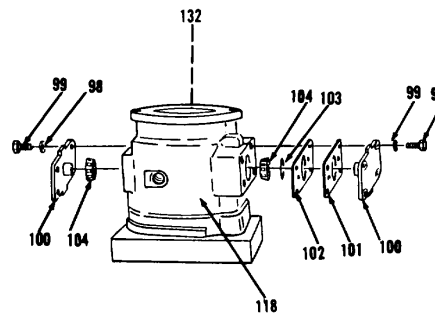

Figure 10-48.
10. Heat two bearings (104) in oil to a maximum temperature of 275 degrees F and install on two covers (100, Figure 10-48).
11. Install one of two new preformed packings (103) and enough shim(s) (102 and 101) to obtain a shim thickness of 0.15 inch on one of two covers (100).
12. Install one cover (100) on body (118).
13. Install four of eight lockwashers (99) and bolts (98). Tighten bolts (98) to 32 ft-lb torque.
14. Position second cover (100) on opposite side of other cover (100) with shim(s) (102 and 101).
15. Install remaining four of eight lockwashers (99) and bolts (98). Tighten bolts (98) evenly in a clockwise direction to 40 lb-in torque in steps of 10 lb-in torque. Move swashplate (132) back and forth while tightening bolts (98).